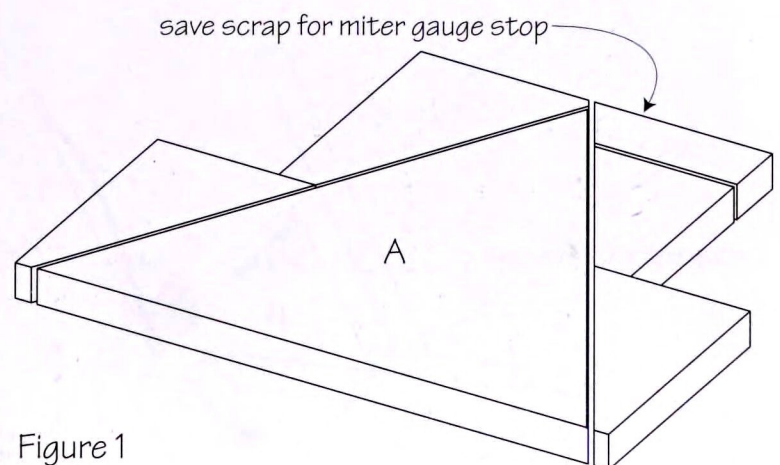

Figure 1
1. Flatten and thickness walnut for the top shelf (A), the inner shelves (B), and the feet (G). (See Flattening, Thicknessing, and Jointing on page 8 to review this process.) Keep in mind that these pieces are all triangles, so you will not need as much wood as simply tripling the length measurements above would suggest. If you glue the top shelf from two pieces 6" wide, you will need a board no more than 21" long. The inner shelves require a board 14" long, and the feet can be made from the shortest length your planer will take (or resaw a shelf scrap on the table saw). Joint one edge of each of your boards and rip each to the greatest width it will produce.
2. Cut the board for the top shelf (A) into pieces that will produce an equilateral triangle $13\frac{1}{2}$ " on a side (see figure 1). Arrange the pieces of the top shelf, and joint their gluing edges. (See Gluing Table Tops on page 10 for helpful tips.) Center the shorter piece on
4. Rip a 1½" strip from the longer edge of the cut-off scrap you just made (see figure 1). (Keep the rest of the scrap, too.) Use this strip as a stop for cutting the rest of the triangular shelves and feet in this project. Clamp the strip to the miter guide fence, forming a notch for the top shelf's corner, 13½" from the blade. Use a thin, metal ruler for this measurement. Slide the top shelf into the notch and cut its third side.
5. Remove the strip, and cut close to the end of the board for the three inner shelves (B). Replace the strip, clamping it 6½" from the blade. Flip the board, fitting its acute corner into the notch, and cut the first inner shelf. Flip and cut twice more to produce the rest of the shelves. Save one of the scrap pieces.